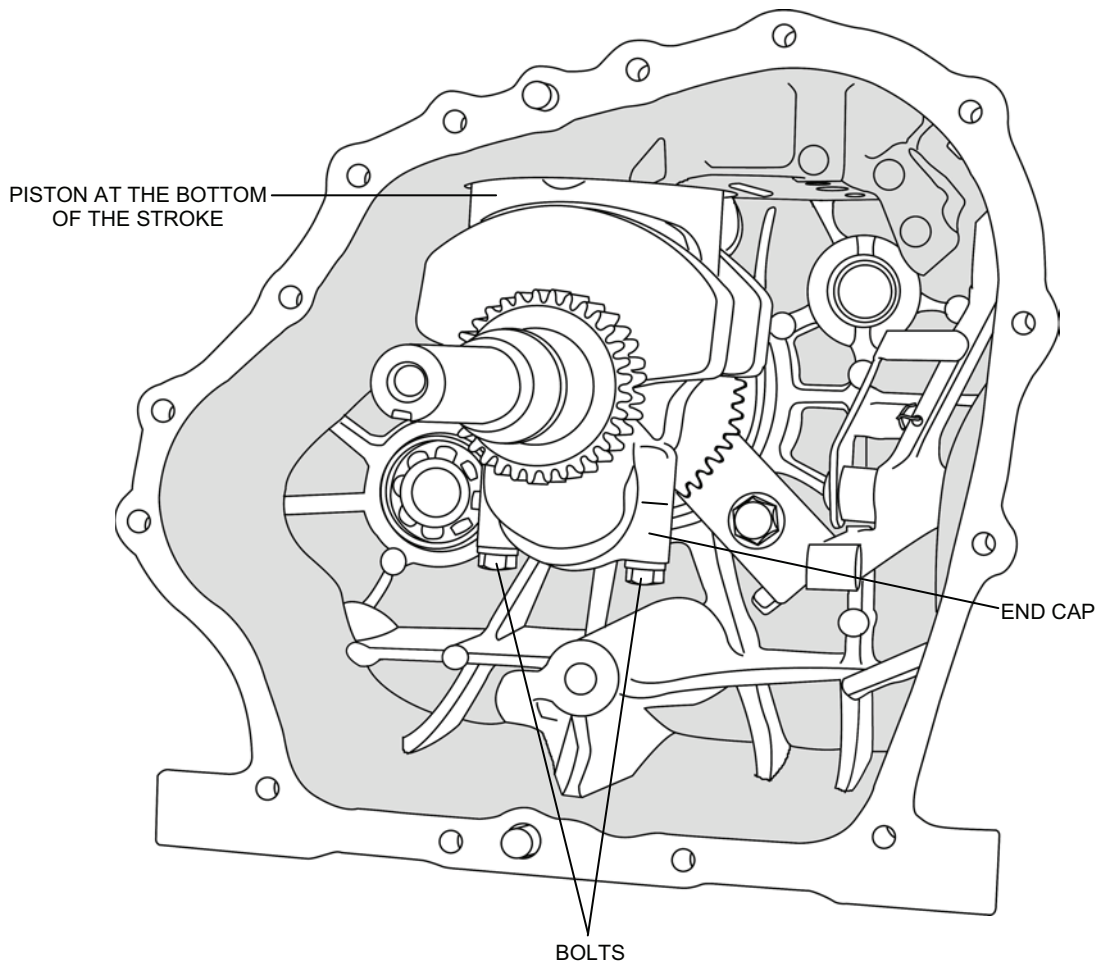

Figure 8. Piston and Connecting Rod Assembly Removal.
9. Remove the piston and connecting rod assembly from the engine as follows (see Figure 8):
If the crankshaft is at the top of the stroke, the connecting rod tightening bolts will be difficult to access. Rotate the crankshaft to the bottom of the stroke so that the tightening bolts are accessible, as shown in Figure 8.